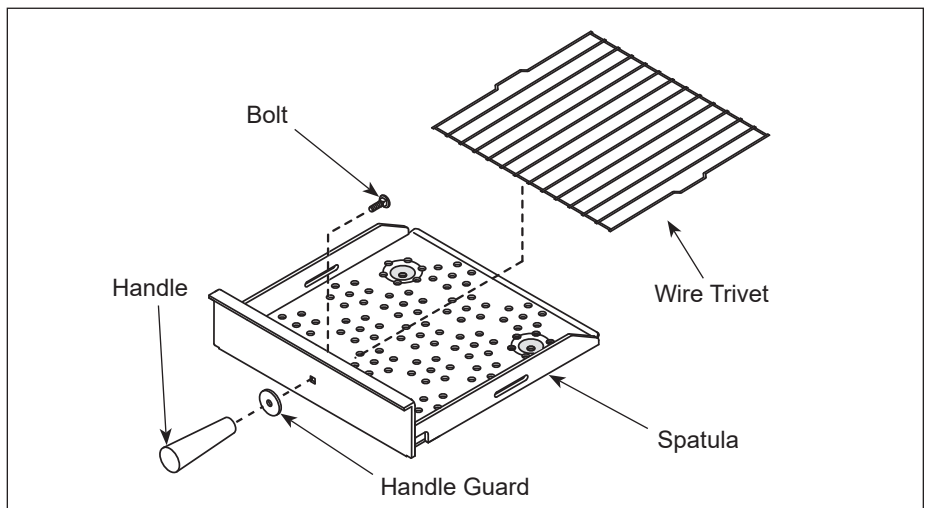

Figure 3. Assembling Handle—MS-250 Only
7. **MS-250 Models:** Assemble the Guard and Mounting Bolt to the Spatula (Figure 3). Then install the Wire Trivet into the side slots on the Spatula.